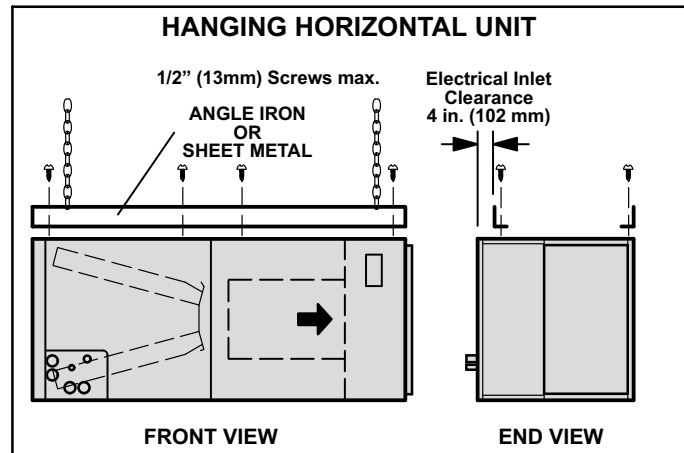

FIGURE 16
- 3- If hanging the unit, it must be supported along the entire length of the cabinet. If using chain or strap, use a piece of angle iron or sheet metal attached to the unit (either above or below) so that the full length of the cabinet is supported. Use securing screws no longer than $1/2"$ (13mm) to avoid damage to coil or filter. See figure 16. Connect return and supply air plenums as required using sheet metal screws.
- 13- If hanging the unit, it must be supported along the entire length of the cabinet. If using chain or strap, use a piece of angle iron or sheet metal attached to the unit (either above or below) so that the full length of the cabinet is supported. Use securing screws no longer than 1/2" (13mm) to avoid damage to coil or filter. See figure 16. Connect return and supply air plenums as required using sheet metal screws.